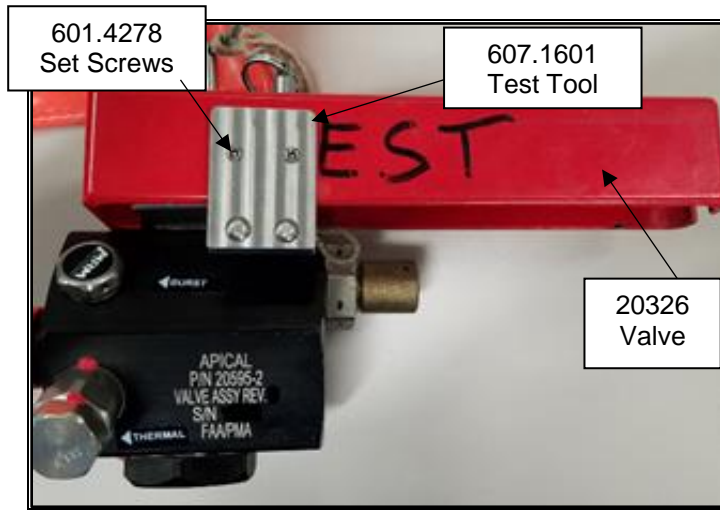

Figure 2: Pull Cable Test Tool Installed
5. Position the pull cable test tool in the valve shroud as shown in Figure 2 by sliding the tool up above the valve trigger pull cable. Secure the tool in place by tightening the P/N 601.4278 set screws into the drilled holes until only one thread shows.